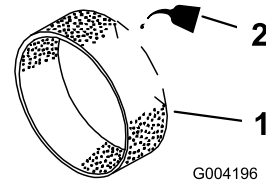

Figure 16
3. Put one or two ounces (29.6 or 59.1 ml) of oil on the pre-filter (Figure 16).